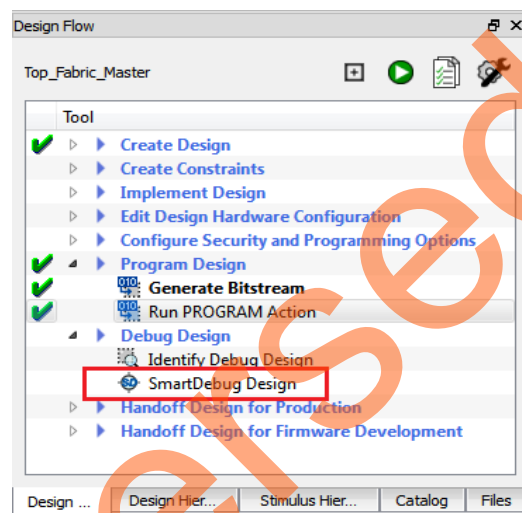

Figure 20 • SmartDebug Window Debug Options
4. Launch **SmartDebug** by selecting the **SmartDebug Design** option from the **Design Flow** window as shown in Figure 20. The **SmartDebug** window is displayed.